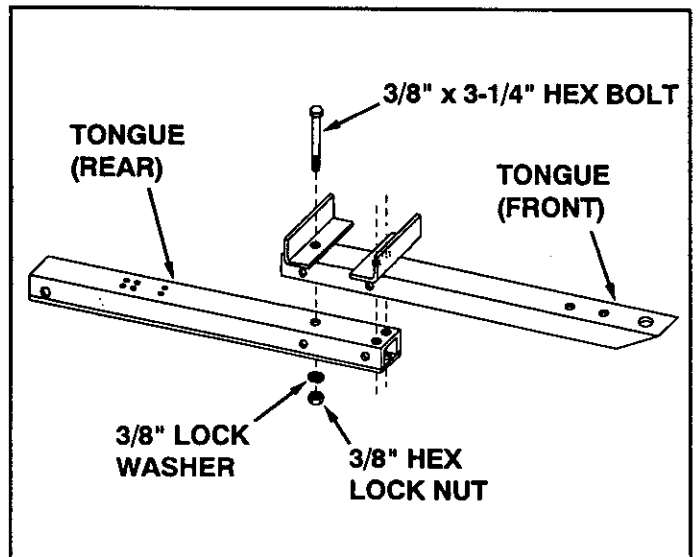

FIGURE 7
- Assemble the front tongue over the top of the rear tongue using three 3/8" x 3-1/4" hex bolts, 3/8" lock washers and 3/8" hex lock nuts. See figure 7.